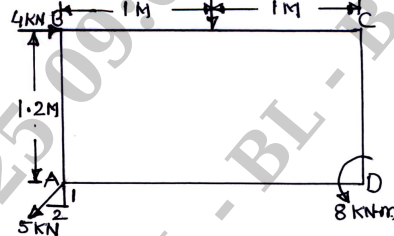

Fig.Q.2(c)
- c. Determine the resultant of force system acting over a body as shown in Fig.Q.2(c). Also locate the position of resultant with respect to point D. (08 Marks)